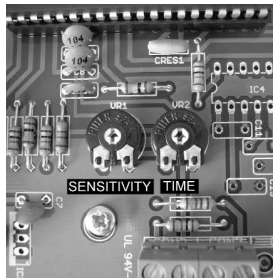

Fig 3.2
- To adjust the sensitivity of the microwave, you will first need to put the Sentry 500 into Walk Test mode. To do this, remove the jumper from pin header nearest to **SV2** mark, and put it across pin header **SV3** (see PCB Overview). Each time the microwave detects motion the Sentry 500 will emit a short tone. The sensitivity of the microwave is adjusted by pot **VR1**. To reduce the sensitivity, turn pot **VR1** anti clockwise - to increase, turn it clockwise (fig 3.2).